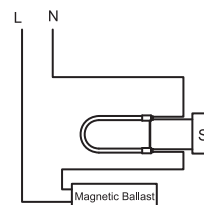

FIG. 1
- REMOVE THE EXISTING BALLAST AND EXISTING STARTER (IF PRESENT) FROM THE FIXTURE. (FIG. 1)